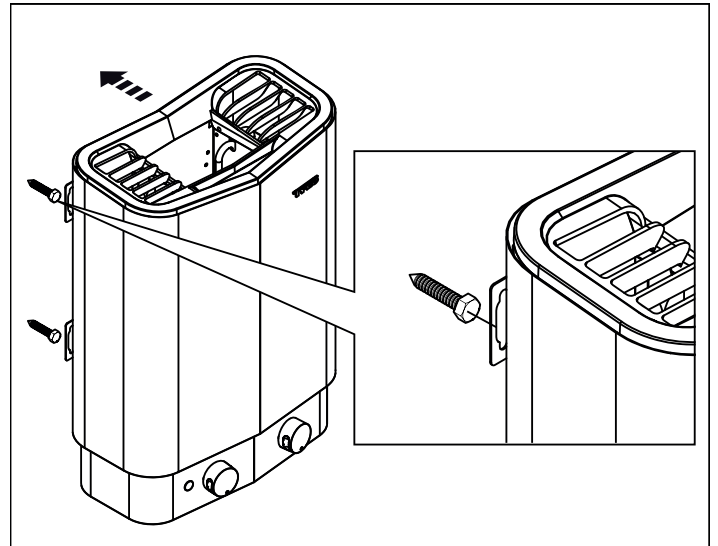

Figure 9: Hang up the heater
7. Hang up the heater on the screws (see Figure 9).